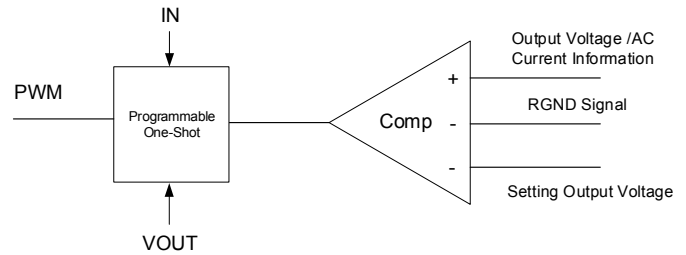

Figure 2. Simplified Control Schematic
The simplified control schematic is shown in Figure 2. The high-side switch on-time is determined solely by a one-shot whose pulse width is inversely proportional to input voltage (IN). The one-shot is triggered when the internal setting output voltage is higher than the combined information of output voltage and the AC current information of inductor and load line signal, which is processed and obtained through the sensed low-side MOSFET current once it turns-on. The added AC current information can help the stability of constant-on time control even with pure ceramic output capacitors, which have very low ESR. The AC current information has no DC offset, which does not cause offset with output load change, which is fundamentally different from other  $V^2$  constant-on time control schemes.